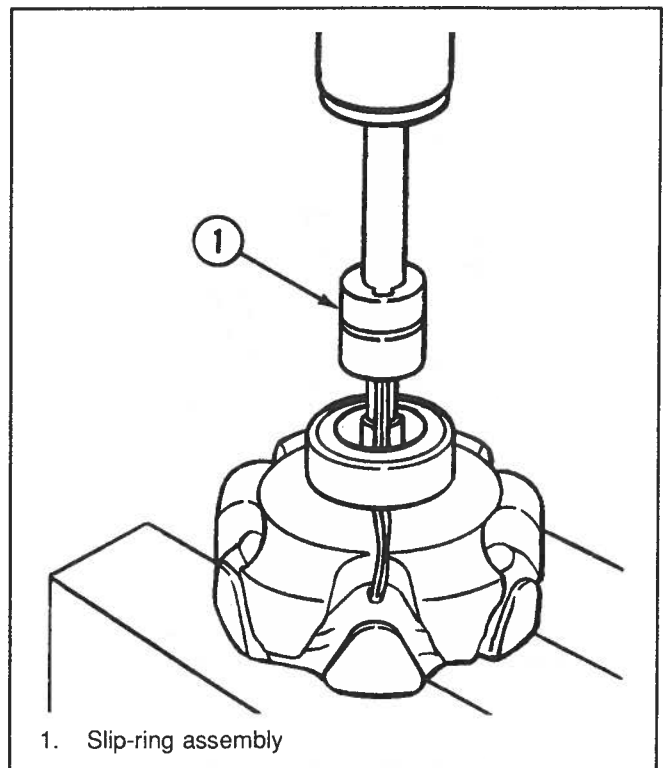

Figure 6-83. Installing Slip Rings On Rotor
2. Guide the rotor leads through one of the oval passages in the slip-ring assembly. Align this oval passage with the groove in the shaft and make sure that the driver sleeve used will clear the rotor leads. Carefully press the slip-ring assembly onto the shaft. See Figure 6-83.